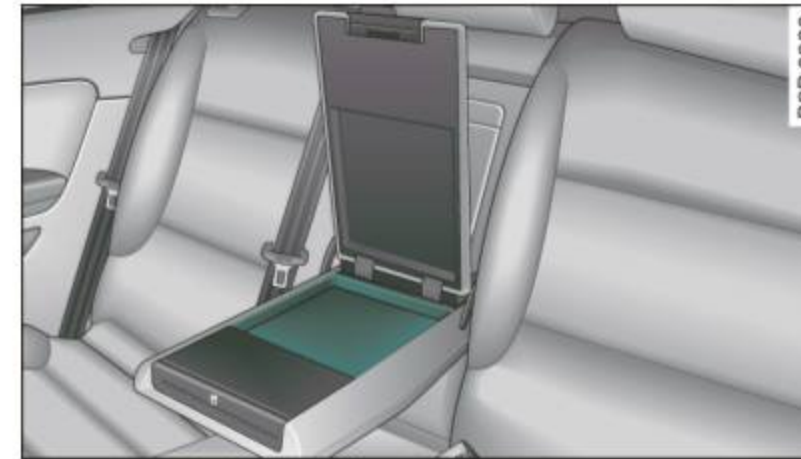

Fig. 101 Center of the rear seatbench: rear armrest folded down
- Pull the armrest down on the front ⇒ fig. 101.